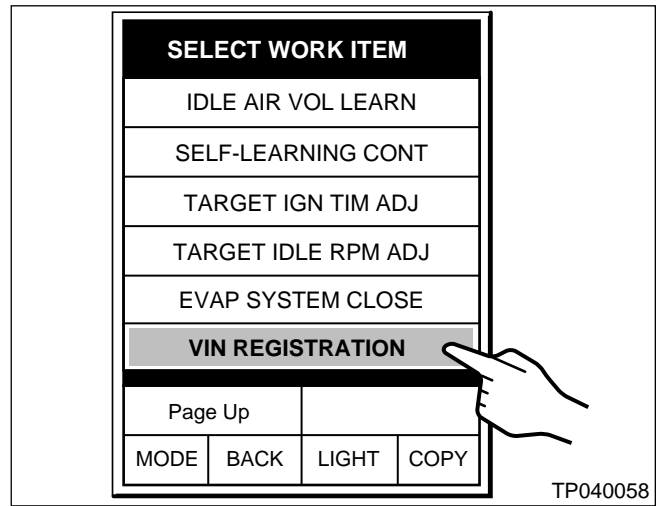

Figure 10
- c. Scroll down and select **VIN REGISTRATION** on the “Select Work Item” screen. See Figure 10.